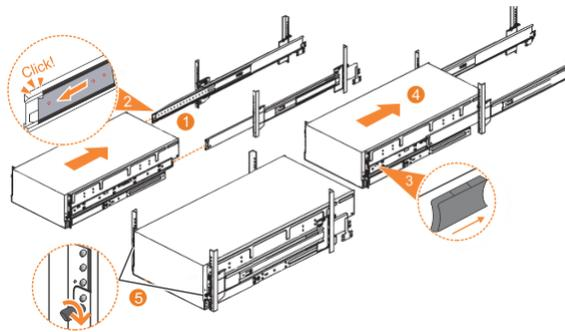

Figure 55. Replacing the 5U enclosure in the rack
1. Fully extend the left and right drawer sections from the rack to lock the rails in the extended position (1 in Figure 55 on page 97).
2. Ensure that the ball bearing retainer clicks into place inside the front of the left and right drawer sections (2 in Figure 55 on page 97).
6. Locate the left and right blue release tabs near the front of the enclosure. Press both release tabs forward to unlock the drawer mechanism (3 in Figure 55 on page 97).
7. Push the enclosure firmly into the rack (4 in Figure 55 on page 97).
8. Tighten the locking thumb screws (5 in Figure 55 on page 97) to secure the enclosure in the rack.